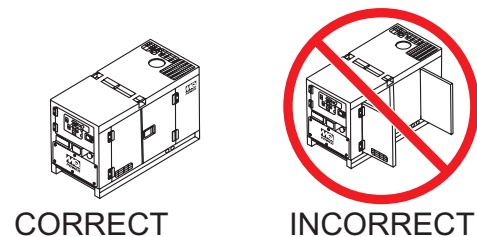

Figure 43. Engine Enclosure Doors
5. Close all engine enclosure doors (Figure 43).